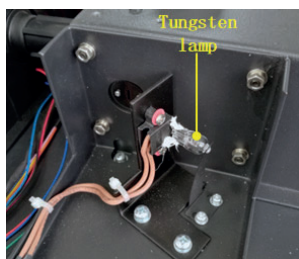

Fig. 7-3 Instrument case fixing screws
3. Rotate the rod counterclockwise and take it out. Use a screwdriver to loosen the 4 screws (Figure 7-3) holding the instrument case and slowly lift the cover to the right side;